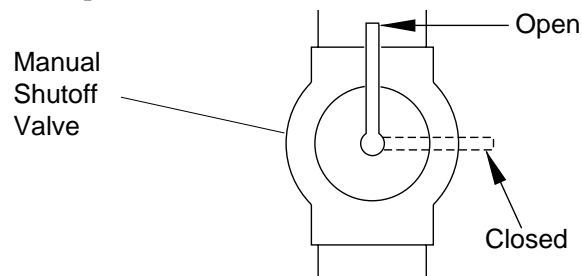

Figure 11 - Manual Shutoff Valve
1. Close manual shutoff valve (see Figure 11).
1. Open manual shutoff valve (see Figure 11).